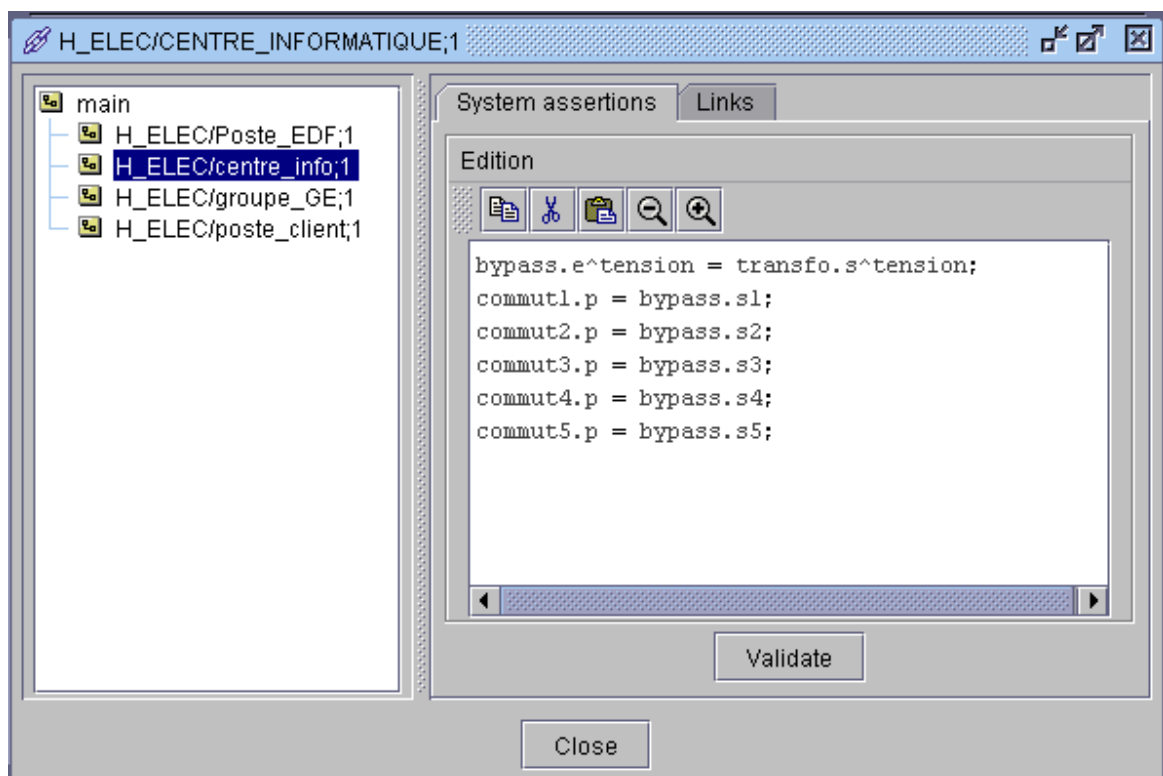

Figure 155 : System assertions tab
- Click on the **System assertions** tab; the following window (Figure 155) is displayed.